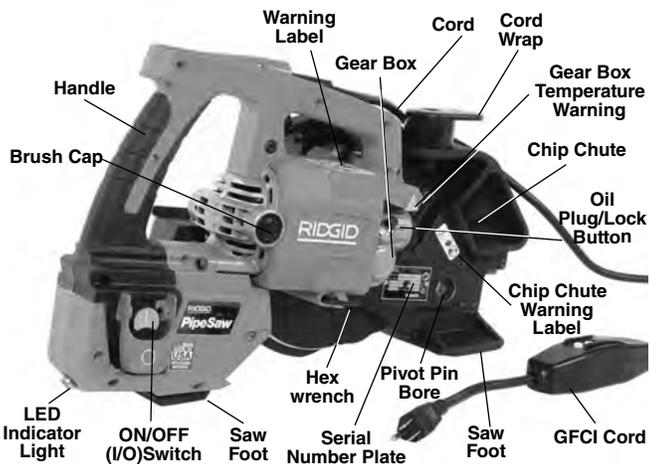

Figure 1 – Model PCS-500 Transportable Pipe Saw, Front Side
1. Make sure that the PCS-500 Transportable Pipe Saw is unplugged and press the OFF (O) button.
- Presence and readability of the warning and instruction labels (See Figure 1, 2 and 6).